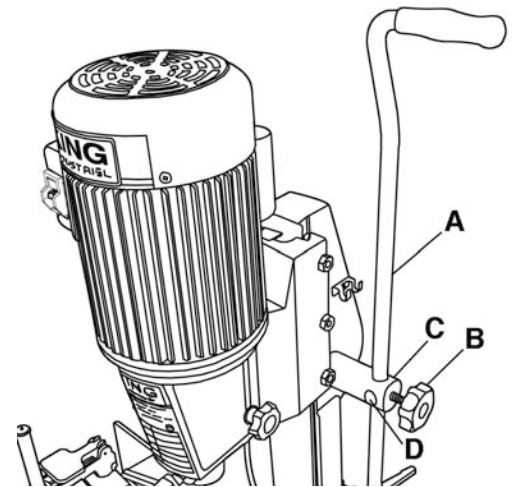

Figure 4
A downfeed handle (A) Fig.4 on the right side of the head is provided to raise and lower the head. This handle may be repositioned for maximum leverage and comfort during operation. To do this, loosen large lock knob (B), remove downfeed handle from shaft (C) and reposition in the second mounting hole (D) in the shaft, retighten lock knob (B) and continue with your operation.